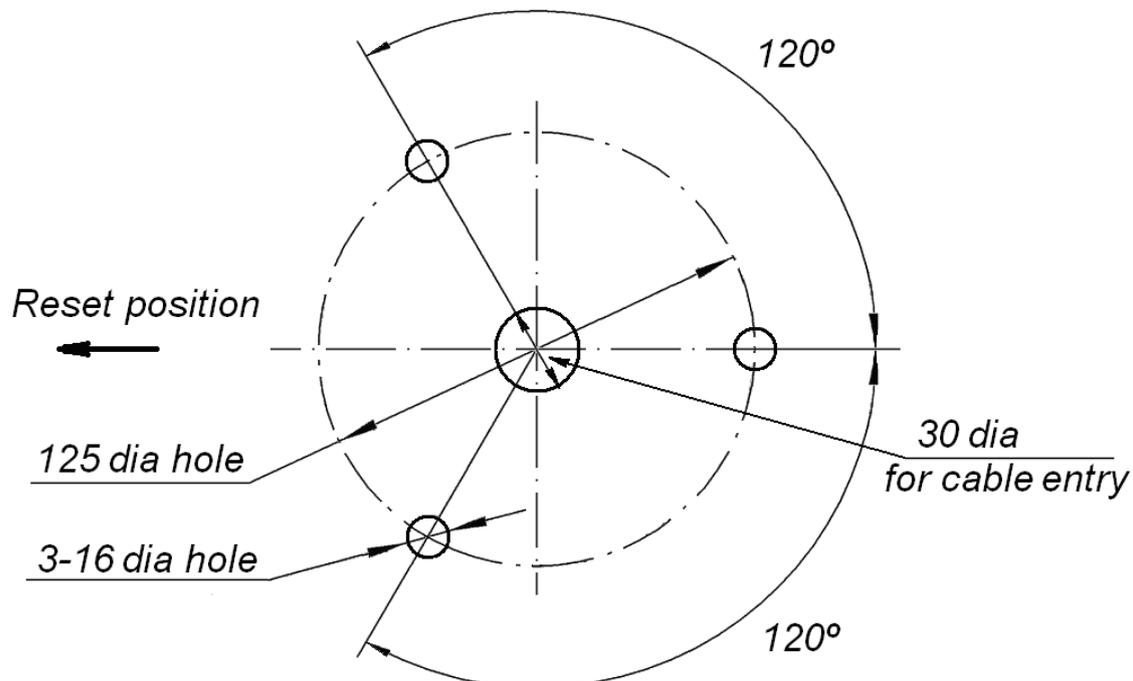

Figure 5 Mounting hole pattern
- to mark the mounting holes according to the enclosed mounting hole pattern (see Fig. 5);
2. Mark the mounting holes as per Figure 5 and electric raceways for the control cable (10) and the power cable (11). Prepare electric raceways and mounting holes for PFG IH 10 anchor bolts to fix the swing gate. Put the anchor bolts sleeves into the mounting holes. Lay out the control cable (10) and the power cable (11) from the control unit to the gate post (1).